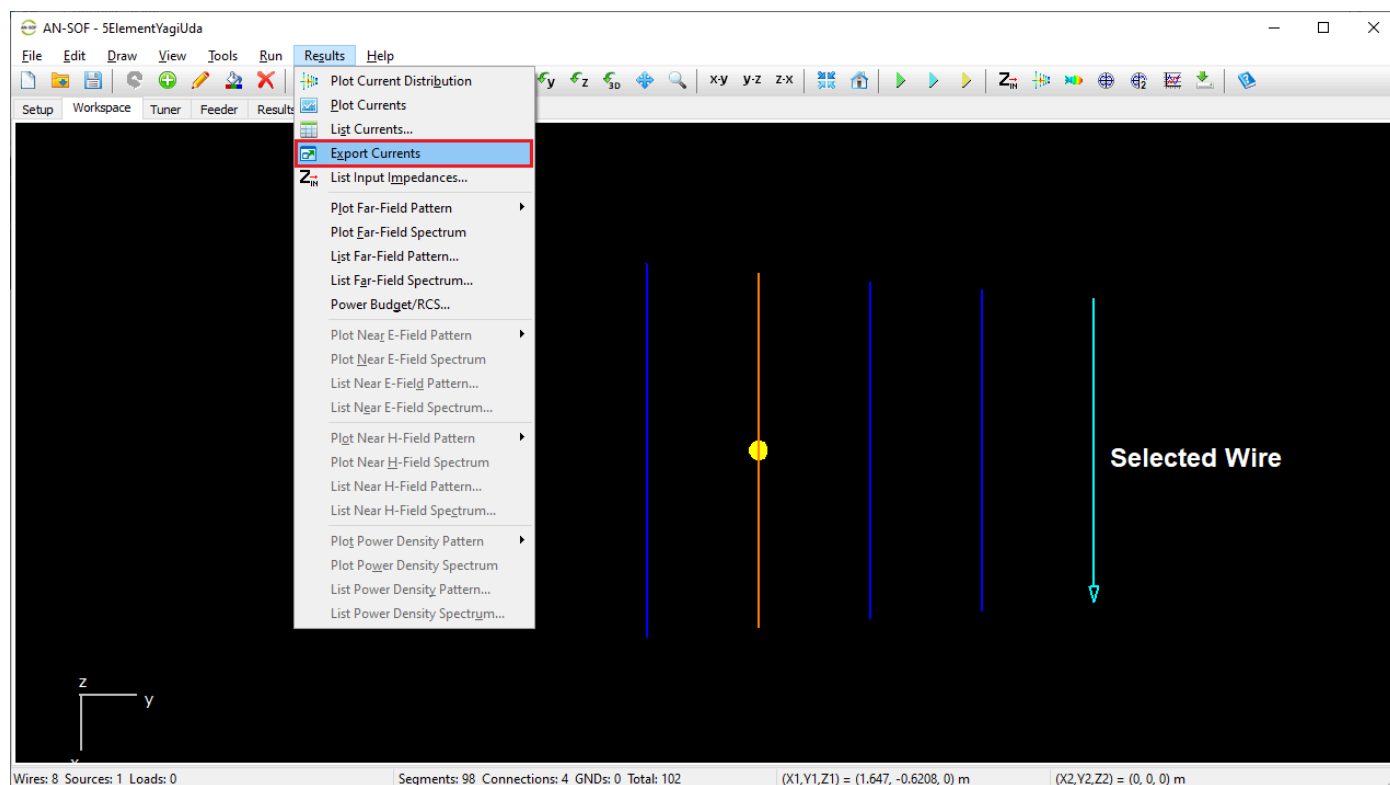

Fig. 1: Export Currents option in the Results menu, enabled when an individual wire is selected.
3. Navigate to the **Results menu > Export Currents** in the main menu (see **Fig. 1**).